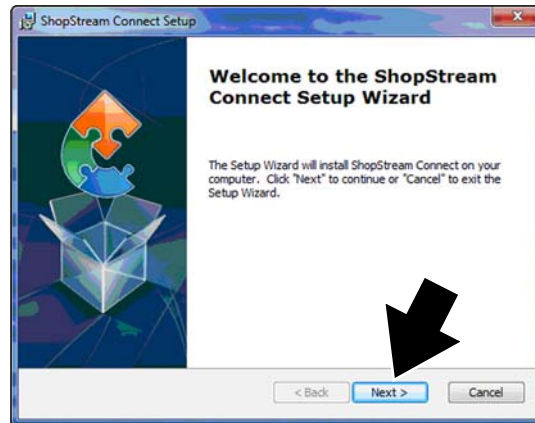

Figure 4-2 Typical Welcome screen
2. Select **Next** (Figure 4-2).